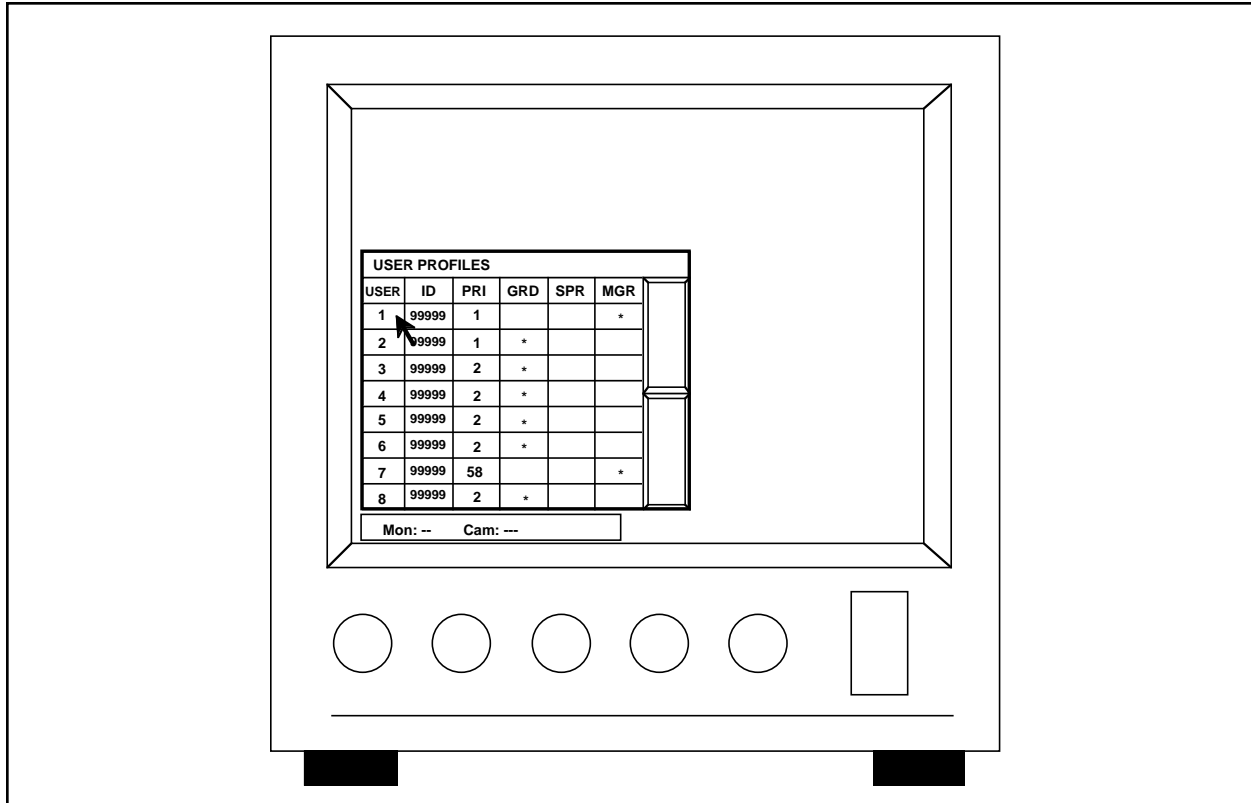

Figure 30. User Profiles Programming Screen
The User Profile contains the following information: the user's personal identification number, the user's priority level, what menus the user will have access to (for programming purposes) and the cameras the user will have access to. Refer to Figures 30 and 31 and the following procedure for programming instructions.
1. From the **USER** menu, [**js to Profiles**], highlight and release the [**point**] button. The User Profiles table should appear on the screen. Refer to Figure 30.